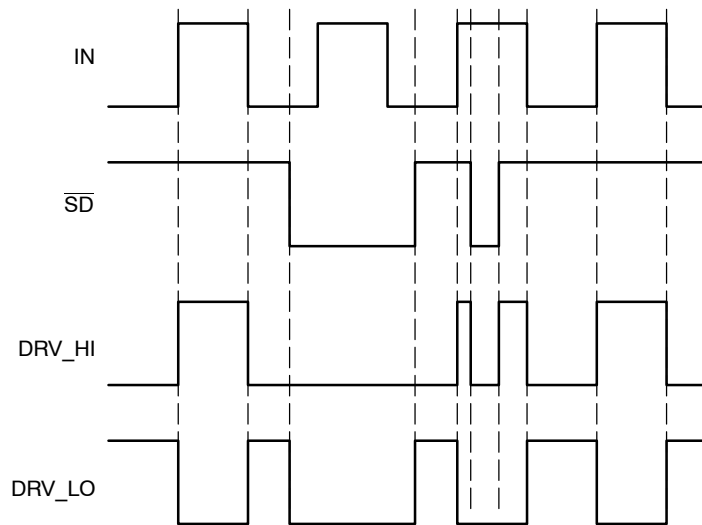
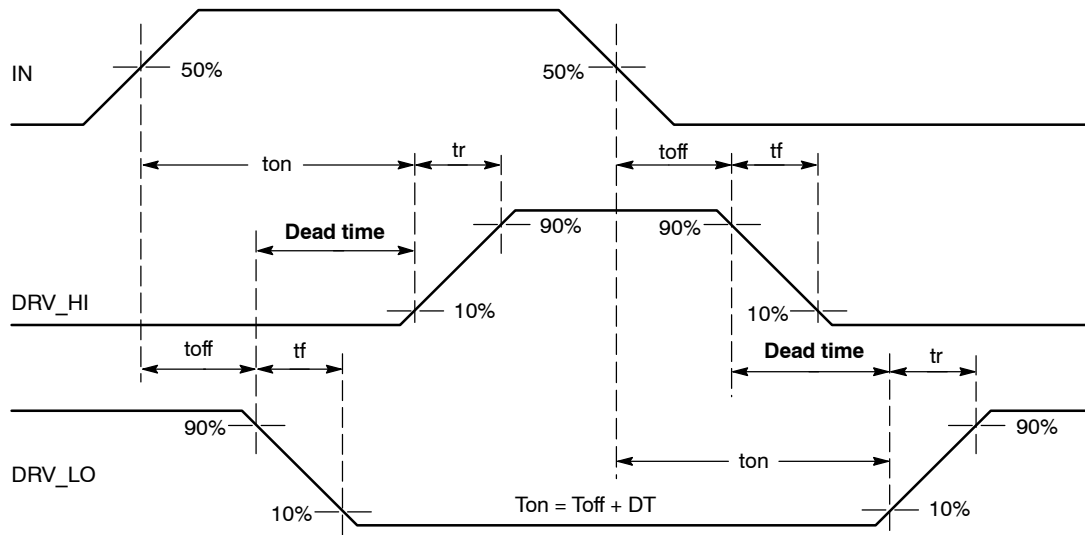
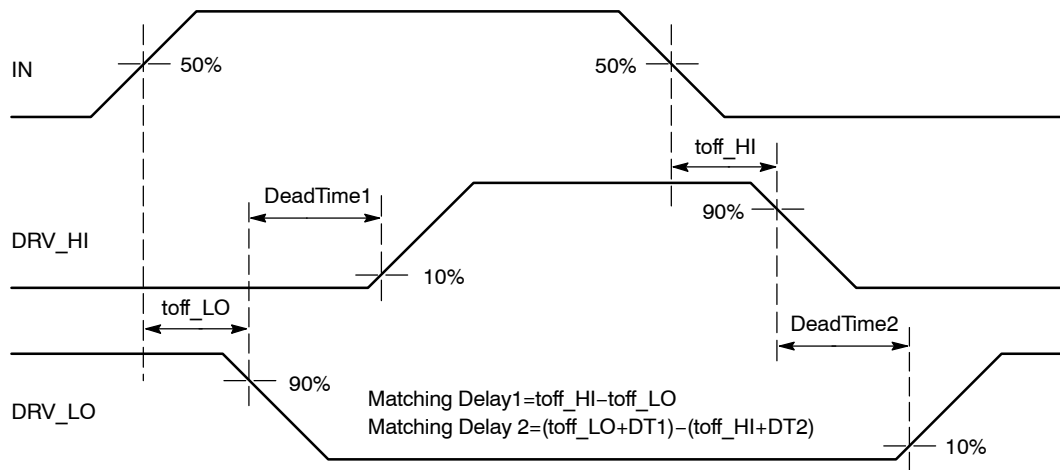

Figure 4. Input/Output Timing Diagram
Figure 5. Timing Definitions
Figure 6. Matching Propagation Delay Definition
6. Timing diagram definition see: Figure 4, Figure 5 and Figure 6.